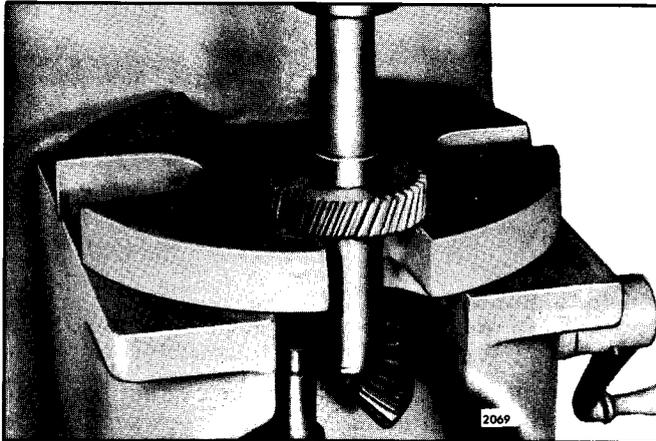

Fig. 3 - Pressing Blower Drive Gear From Shaft
- Support the blower drive gear in an arbor press (Fig. 3).